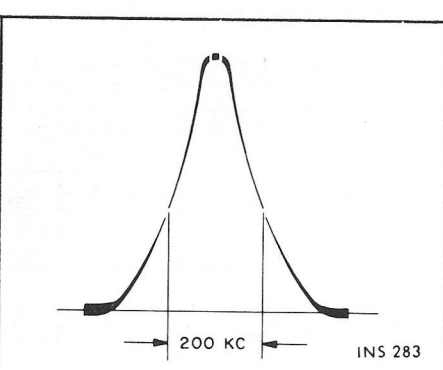

FIGURE 3.
- Connect scope vertical input to point 3N on the printed-circuit board and adjust the top core of Z303 for maximum gain and a response curve like that in Figure 3.